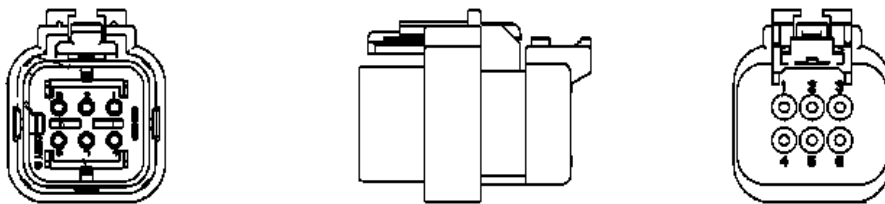

Figure 6.8 DPF Soot Sensor Interface Connector
This sensor currently uses a 6-pin, key 3 receptacle. The part number for the mating connector is: 281-8811 as shown in Figure 6.8.